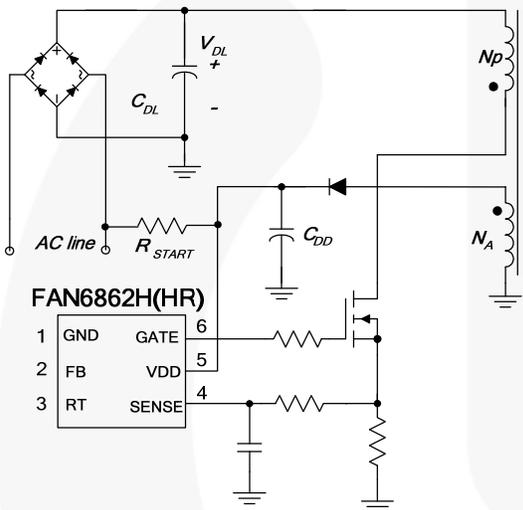

Figure 22. Startup Circuit
Figure 22 shows a typical startup circuit and transformer auxiliary winding for a FAN6862H(HR) application. Before FAN6862H(HR) begins switching, it consumes only startup current (typically 8μA) and the current supplied through the startup resistor charges the  $V_{DD}$  capacitor ( $C_{DD}$ ). When  $V_{DD}$  reaches a turn-on voltage of 16V ( $V_{DD-ON}$ ), switching begins and the current consumed increases to 2mA. Then, the power required is supplied from the transformer auxiliary winding. The large hysteresis of  $V_{DD}$  (8.5V) provides more holdup time, which allows using a small capacitor for  $V_{DD}$ . The startup resistor is typically connected to the AC line for a fast reset of latch protection.